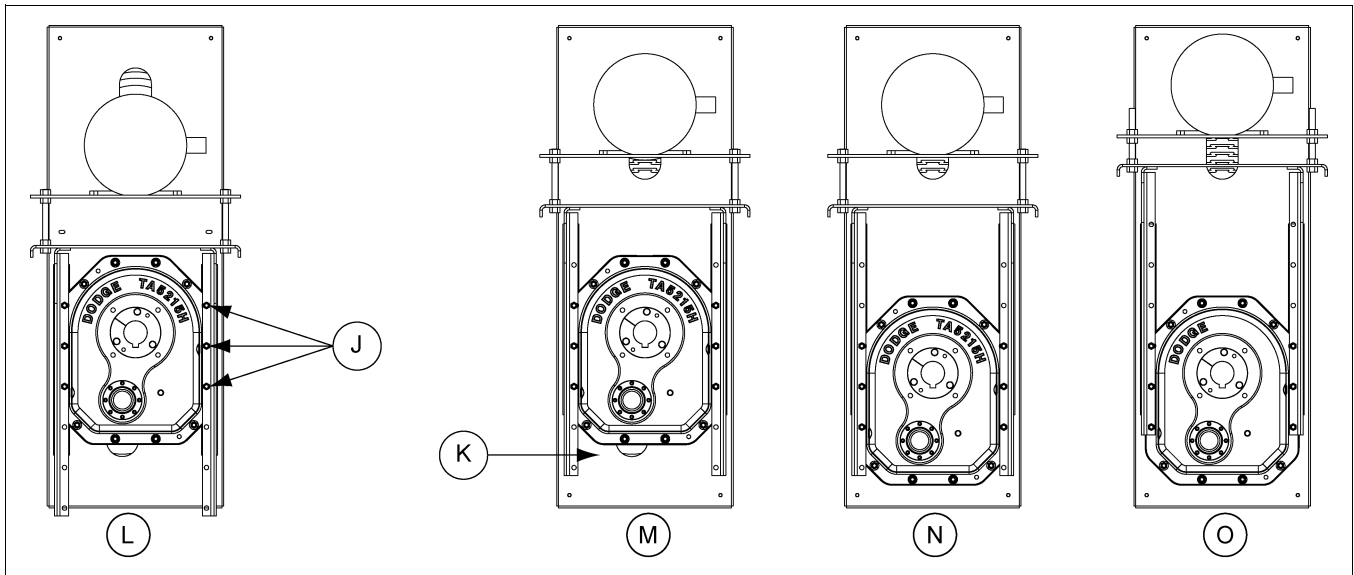
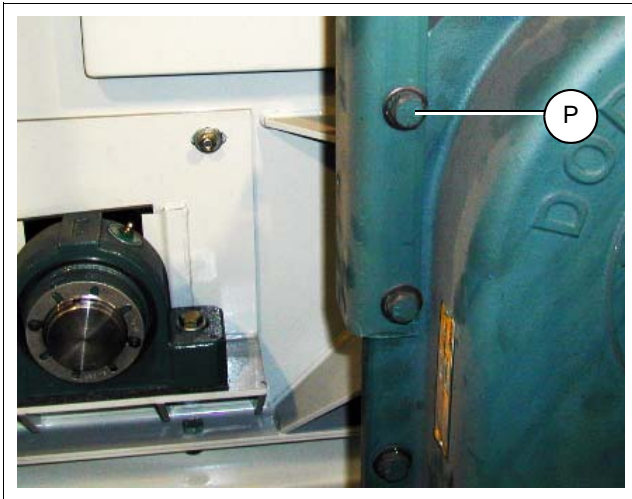

Figure 4Q
Figure 4R
Remove three (3) bolts from each side of the reducer housing. Use a set of holes in the motor mount upright brackets that allows the motor plate to be as close as possible to the top of the conveyor. (See Figure 4R.) Check this location by temporarily positioning the belt guard on the reducer with the hole in the guard centered over the reducer input shaft. This will show the correct motor position for the lengths of V-belts provided. Attach by replacing bolts through brackets and housing. Tighten bolts securely. (NOTE: Motor mount angle may have to be trimmed for torque arm.) (See Figure 4Q on Page 30.)